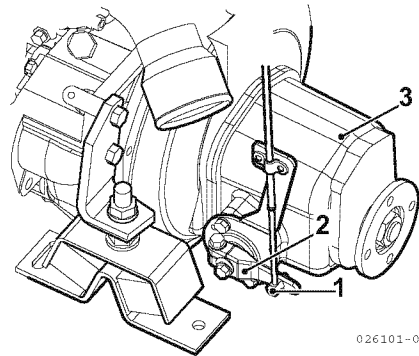
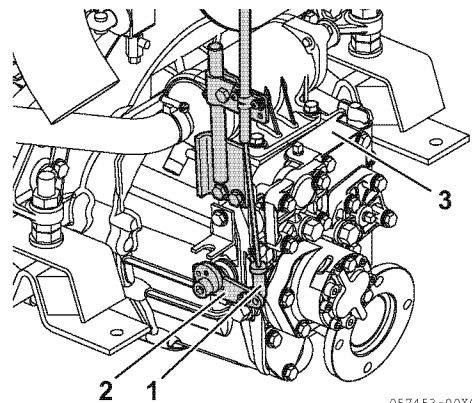

Figure 8
Figure 9
1. Ensure that the remote control lever (Figure 8, (2)) or (Figure 9, (2)) moves to the correct position when the remote control handle is in the NEUTRAL, FORWARD and REVERSE positions. Use the NEUTRAL position as the standard for adjustment.
2. To adjust, loosen and retighten the cable fitting (Figure 8, (1)) or (Figure 9, (1)).